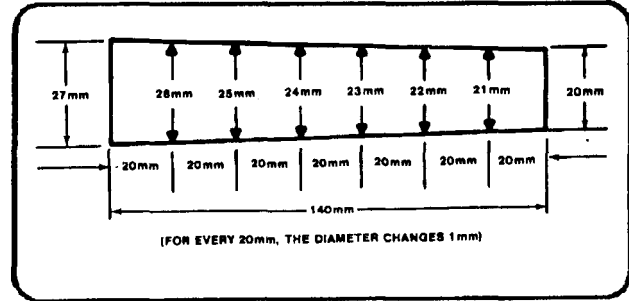

Figure 7-66. Metric taper, 1:200mm.
Metric tapers can also be calculated for taper turning by using the offset tailstock method. Metric tapers are expressed as a ratio of 1 mm per unit of length. Figure 7-66 shows how the work would taper 1 mm in a distance of 20 mm. This taper would then be given as a ratio of 1:20 and would be annotated on small diameter (d) will be 1 mm greater (d + 1). Refer to the following formula for calculating the dimensions of a metric taper. If the small diameter (d), the unit length of taper (k), and the total length of taper (l) are known, then the large diameter (D) may be calculated. The large diameter (D) will be equal to the small diameter plus the amount of taper. The amount of taper for the unit length (k) is (d + 1) - (d). Therefore, the amount of taper per millimeter of unit length = (1/k). The total amount of taper will be the taper per millimeter (1/k) multiplied by the total length of taper (l).